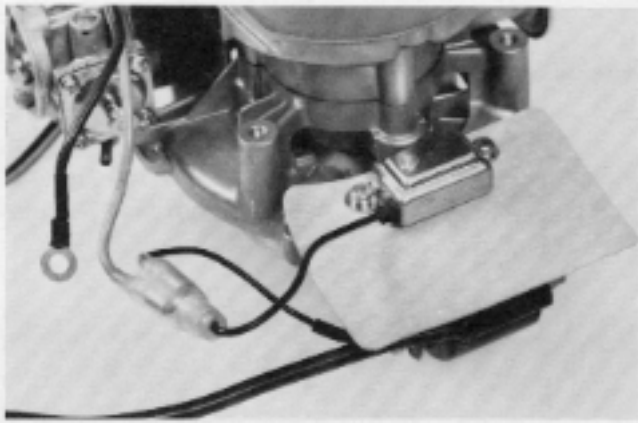

Figure 63
6. Remove the trigger module and gasket. See Figure 63.
1. Install the trigger module using two machine screws. Be sure to install the rubber insulating gasket beneath it. See Figure 63.